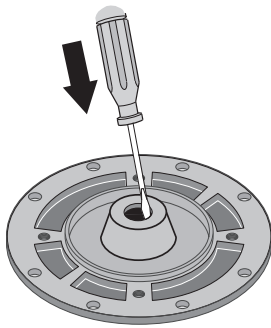

FIGURE 15 - TAP OUT SEAL
5. Place seal plate half face down on flat surface and tap out stationary half of seal (Figure 15).